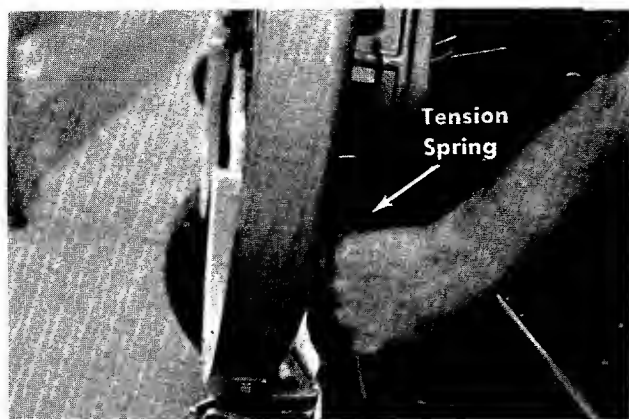

FIGURE 30. REMOVING TENSION SPRINGS
- Step 5. Unhook the tension springs on both sides of the deck. See figure 30.
Step 5. Unhook the tension springs on both sides of the deck. See figure 30.
- a. Remove the entire belt guard from the engine pulley by removing the two front engine bolts. See figure 30.